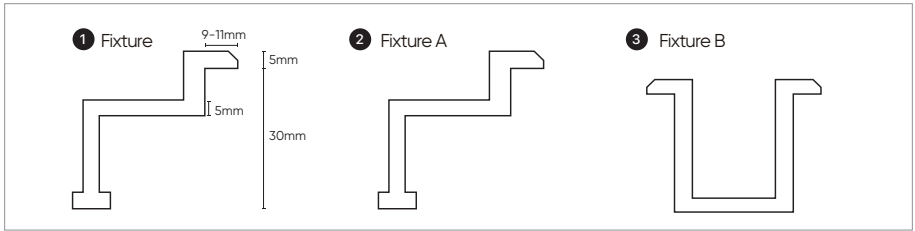

Figure 2: Fixture Diagram of regular PV Module
a) The regular module (with hybrid frame module) needs to be fixed to the photovoltaic bracket using a metal fixture (the fixture shown in Figure 2 is recommended) or other fixtures that have passed the industry tensile or environmental application test. The fixture is mainly used to secure the photovoltaic module. Therefore, when selecting the appropriate fixture, especially a custom fixture, ensure to conduct the load test on both sides to guarantee the safety and stability of the module.